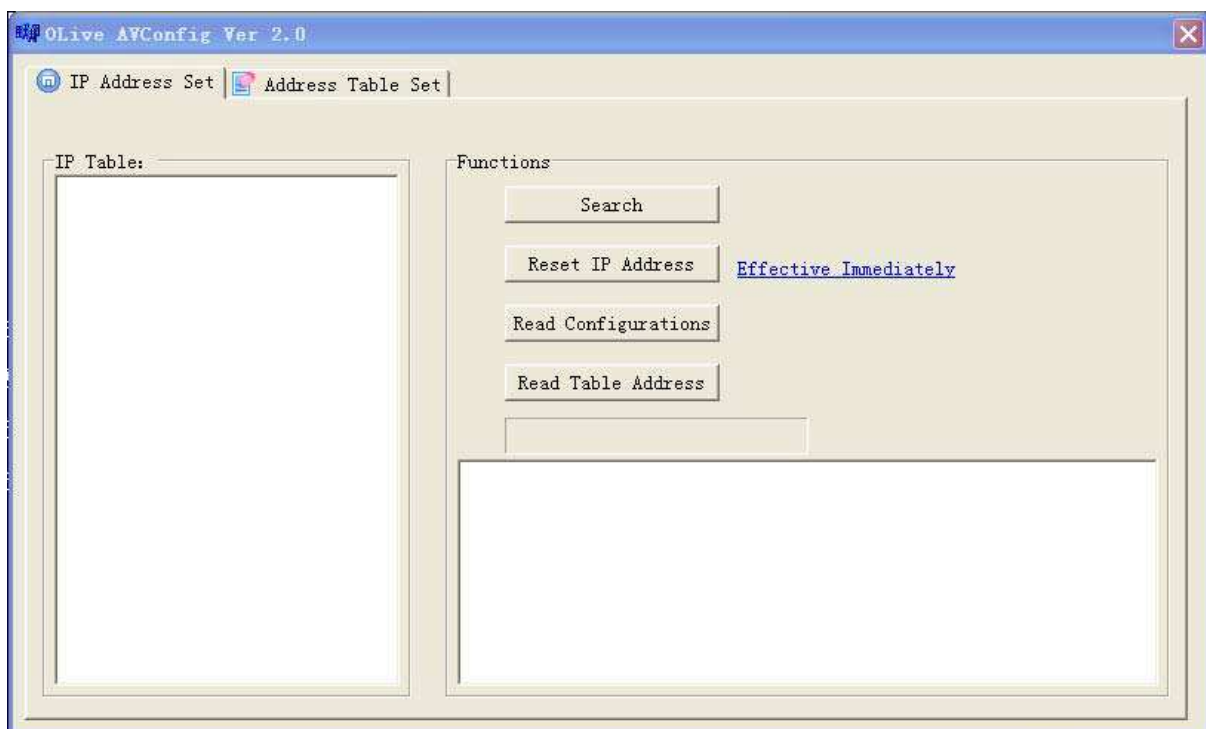

Figure 1
- ✧ Open AVConfig Software(Figure 1);